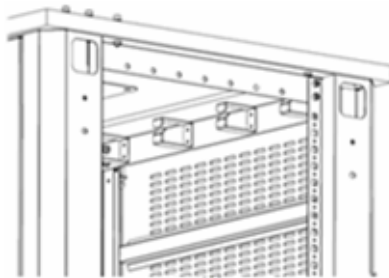

Figure 5-9 Wire racks and wire holes
2. There are wire racks and wire holes in the operation desk, as shown in Figure 5-9.